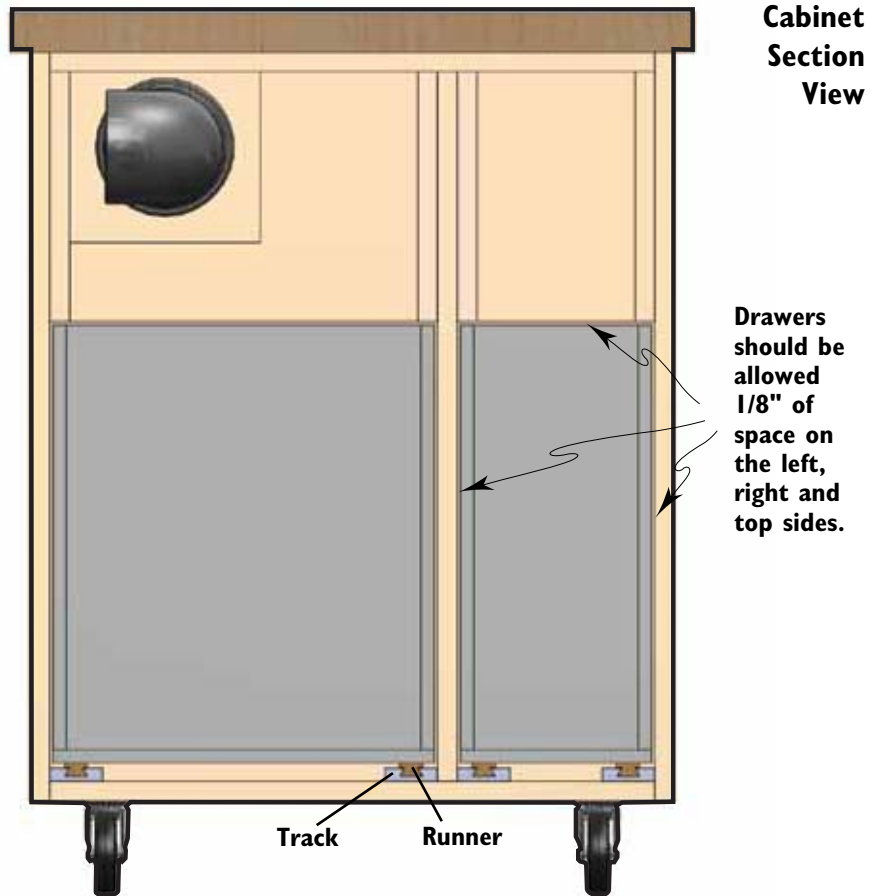

Fig. 4
Note: Drawers should be gapped 1/8" from the top underside lip, sides and back of the carcass interior. **Fig. 4.**
3. Install dovetailed drawer runners to the bottom of each drawer, making sure they are flush with the front of the drawer. Then slide on the drawer tracks and place each drawer in the position it will be mounted. Drawer tracks should be flush with the front of the cabinet. Mark the location of the drawer tracks. Pull each drawer out and slide the drawer tracks off. Screw the drawer tracks to Bottom (piece 1) at the locations you marked. **Fig. 4.** Wax the tracks (10140, wax not included).